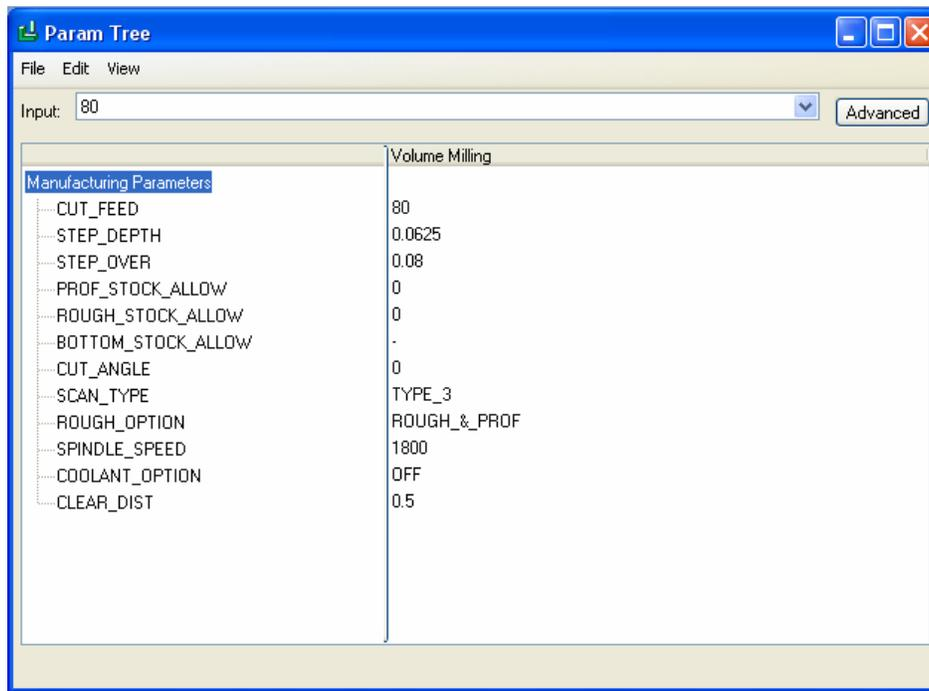

Figure 7c: Manufacturing Tool Parameters
Step 9: Enter the tool parameters shown in Figure 7c.
Step 10: After the values in Figure 7c are set, select FILE >> EXIT to save and exit the Parameter Tree dialog box.